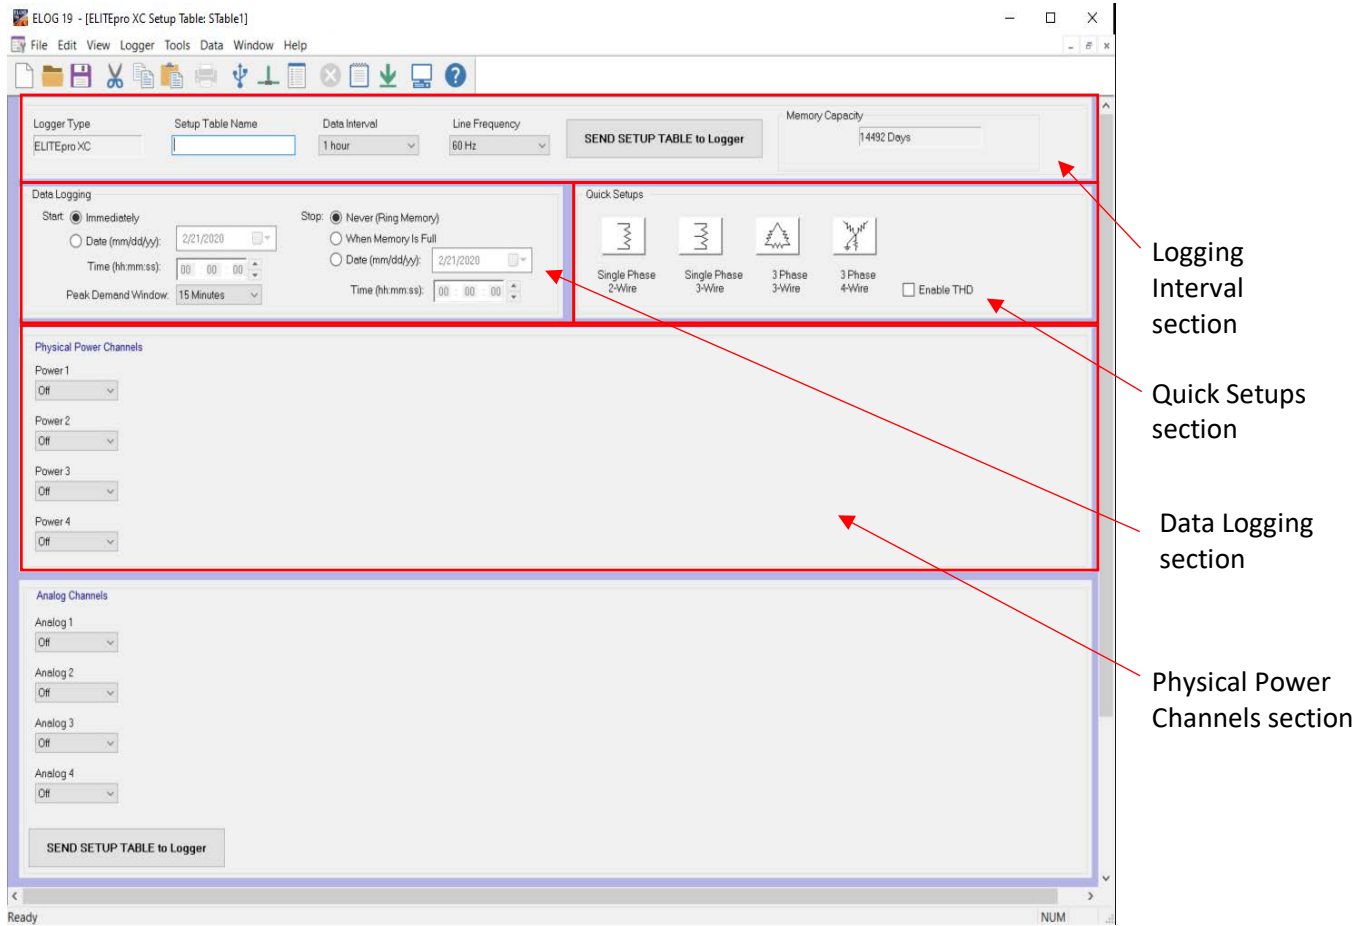
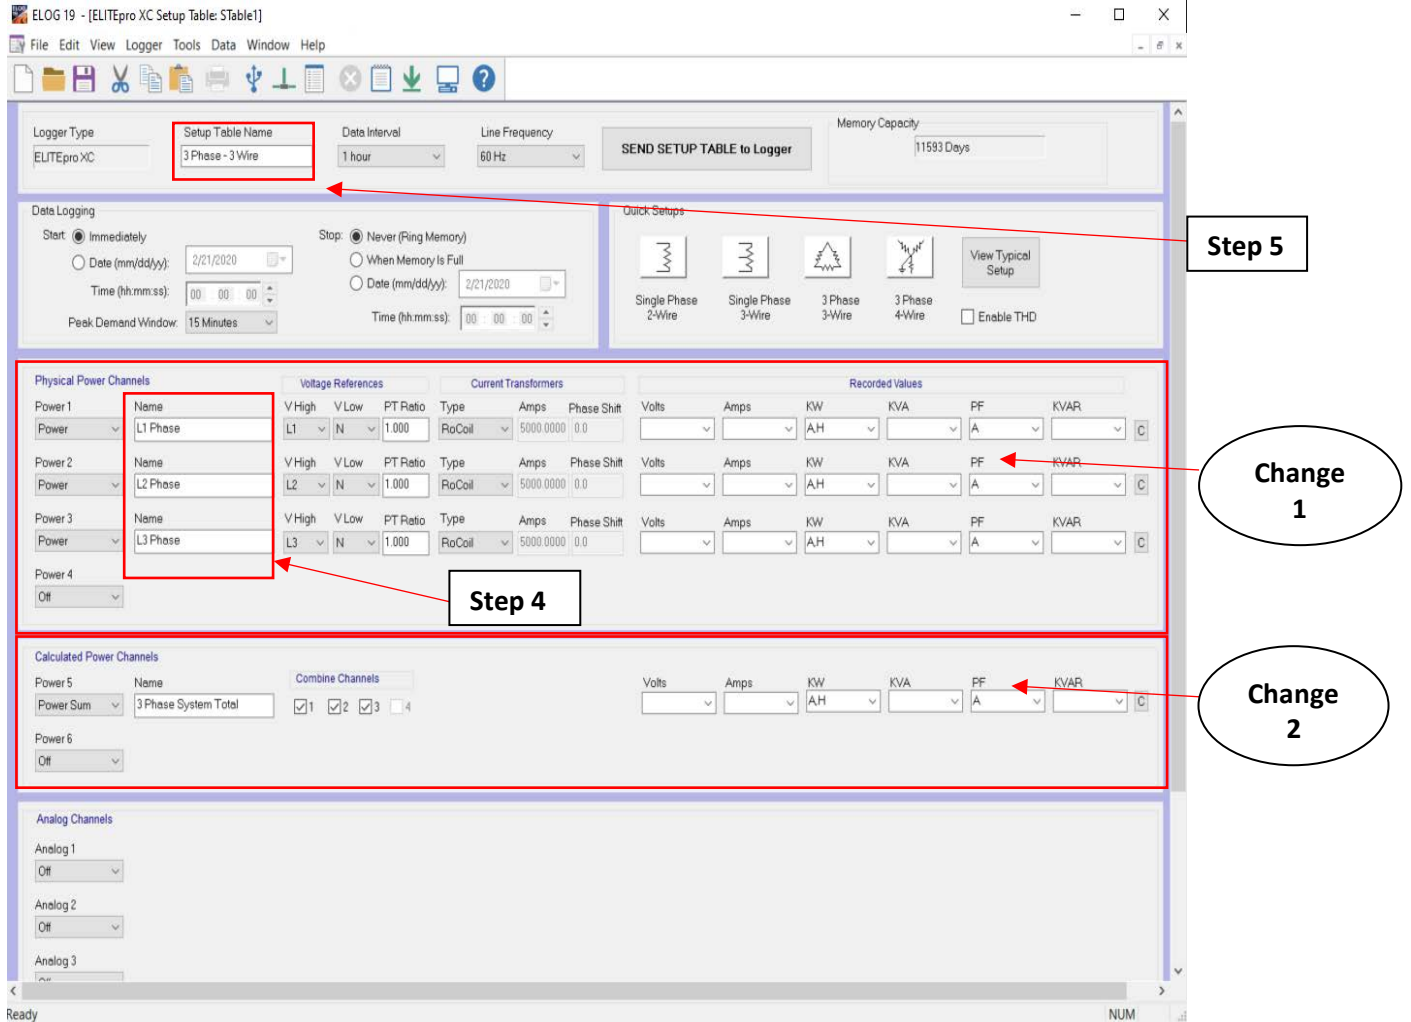

Figure A.3.4: ELITEproXC “Setup” table.
Figure A.3.8: ELITEproXC Setup Table with a different Physical Power Channels section.
6. The "Setup" table will open and appear as shown in Figure A.3.4. The sections boxed in red are relevant for this Dent ELITEproXC Power Meter setup. This guide will describe each section separately.
The following 4 subsections show which options to set for each of the red boxes in Figure A.3.4.
1. Leave the “Setup Table Name” box alone as shown in Figure A.3.4. We will assign a name to the data collected after setting up the Quick Setups section.
Change 1: The “Physical Power Channels” section shown in Figure A.3.4 along with the rest of the underlying sections has changed to what is shown in Figure A.3.8. The “Physical Power Channels” section has expanded to allow the configuration of each sensor connected to the Dent ELITEproXC Power Meter.
All 4 sections outlined in Figure A.3.4 have now been properly set to record power measurements. These parameters are ready to be sent to the Dent ELITEproXC Power Meter.